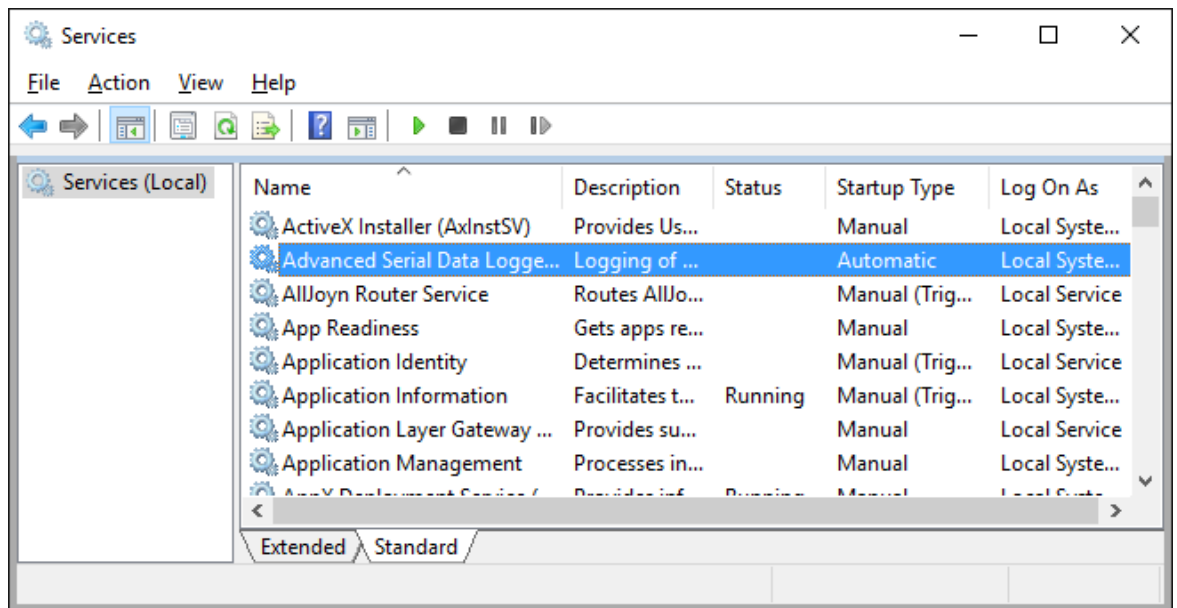

Fig. 34. Manual service run (in Windows 2000)
2. **Manual** - you can start the service application from the "Services" control panel (fig. 34).
After you configured GPS Tracker Data Logger to work in the service mode, you need to restart a computer or start the service manually from the "Services" control panel (fig. 34).